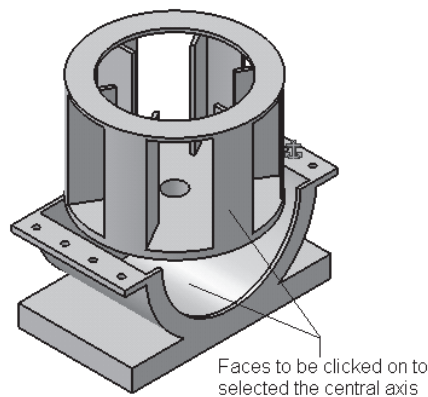

Figure 11-71 Faces to be clicked to select the central axes
- f. Now, insert and constrain the Motor, the Motor Shaft, and the Cover refer to Figures 11-71 through 11-77.
2. Now, insert the Blower in the assembly. Choose the **Coincidence Constraints** button and select the faces shown in Figure 11-71, to select the central axes of these faces.